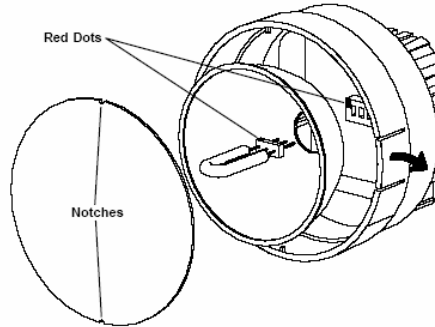

Figure 6 Lamp Replacement
3. The lamps are polarized and must be put into the socket matching polarity. Using a lint free cloth, match up the red dot on the plug with the red dot on the socket and gently rock the lamp back and forth while pushing it into place (see Figure 6). Make sure the lamp is in straight and centered in the reflector hole.
4. Reinstall the reflector and then position the front lens in place matching up the notches on the lens with the two small tabs on the housing to prevent lens rotation (see Figure 6). Push the tabs on the front rim outward and press the lens into place.